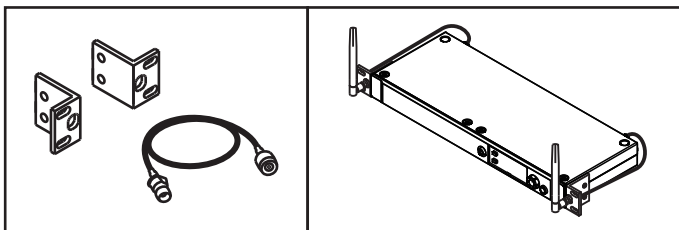

Fig. 6
(C) Install the optional rack mount kit & rear-to-front cables for improved reception quality. Fig. 6